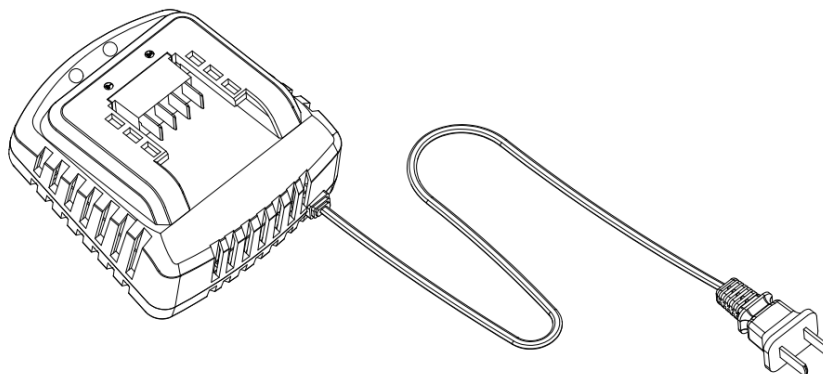

Fig.4
2. CHARGING YOUR BATTERY PACK (Fig.4)
For Li-ion battery(Fig. 4):